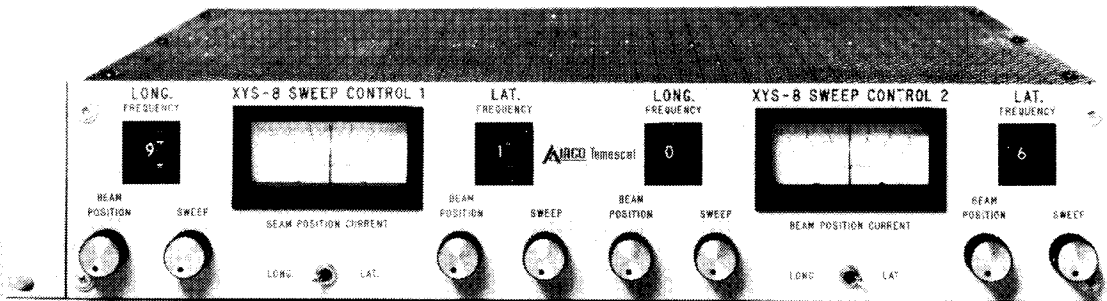

Figure 3-2. XY-8 front panel controls
3.2.3 XYS-8 Controls (Optional) Figures 3-2 and 3-3)